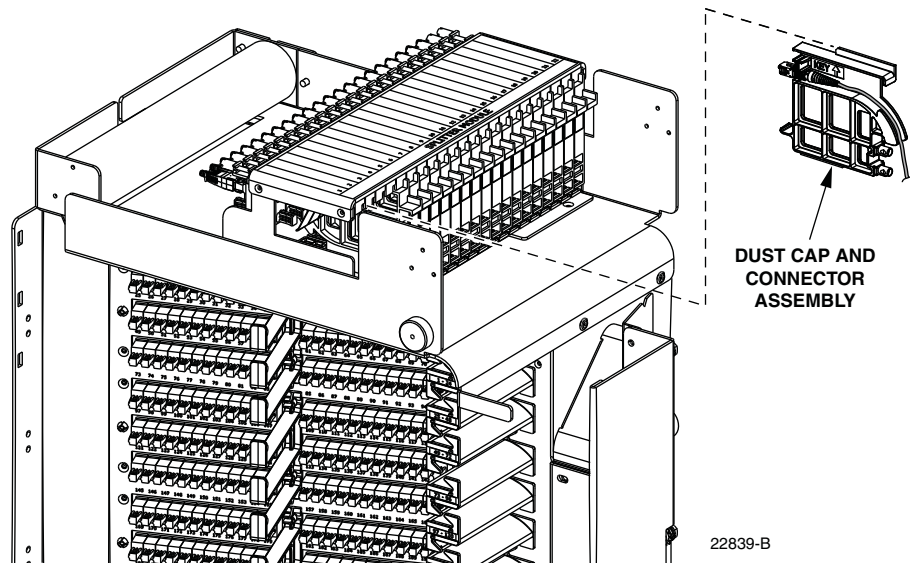

Figure 54. Inserting Dust Cap Assembly Into Splitter Compartment
9. Connect the patch cord connector(s) to the feeder cable connector(s) by inserting the dust cap assembly into the splitter slot as shown in Figure 54.